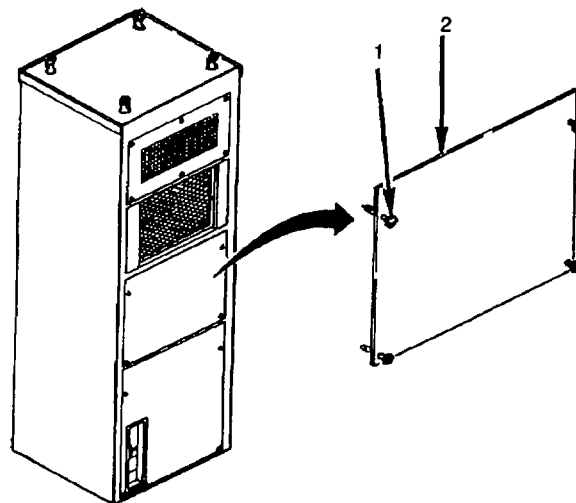

Figure 4-3. Condenser Fan Section Panel Removal
4.10.2 Condenser Fan Section Panel. Loosen four captive fasteners (1) and remove panel (2) (see fig 4-3).